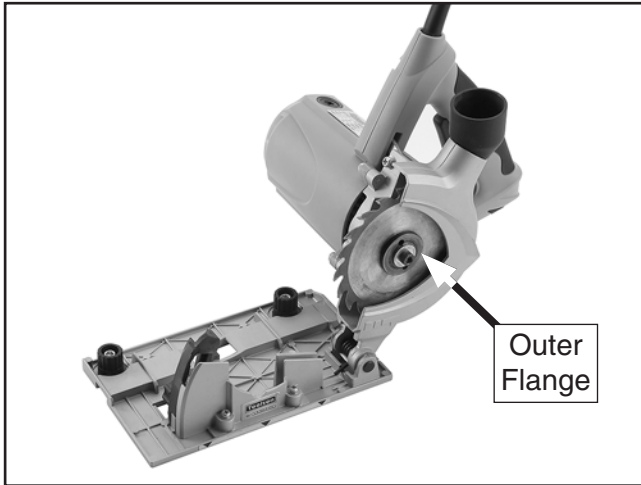

Figure 10. Saw in open position for blade change.
3. With saw in open position, as shown in **Figure 10**, steady arbor by inserting 24mm spanner wrench into two holes on outer flange.